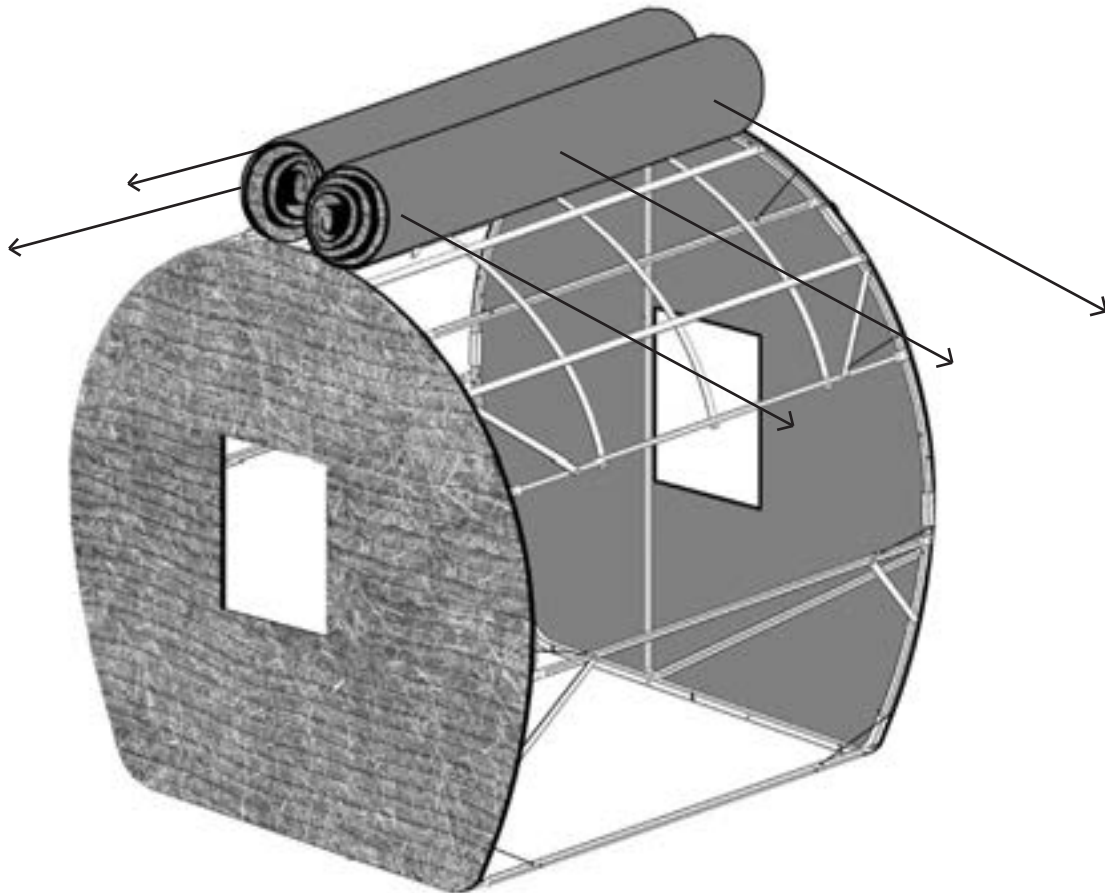

Figure 30.1
STEP 21: Locate the (1) COVER BLANKET "P" that will be installed over the remaining bale blind frame. Keeping the COVER BLANKET "P" rolled-up in it's double curl configuration, place it on top of the bale blind frame at the center-most SIDE BRACE SUPPORT "E", as illustrated in Figure 30.1. Then simply unroll each end, allowing the COVER BLANKET "P" to lay over the frame.